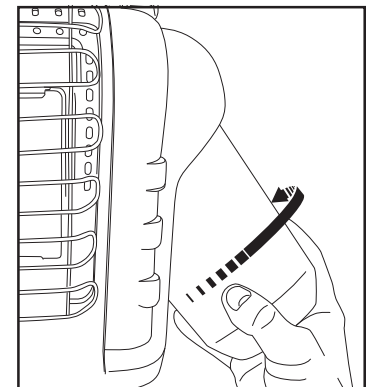

Figure 2: Attach fuel tank
- Swivel regulator outward for easy tank installation. Screw 1 lb. disposable LP-gas supply cylinder clockwise (from bottom) into portable heater until hand-tight; see Figure 2. Do not use thread sealant on this connection.